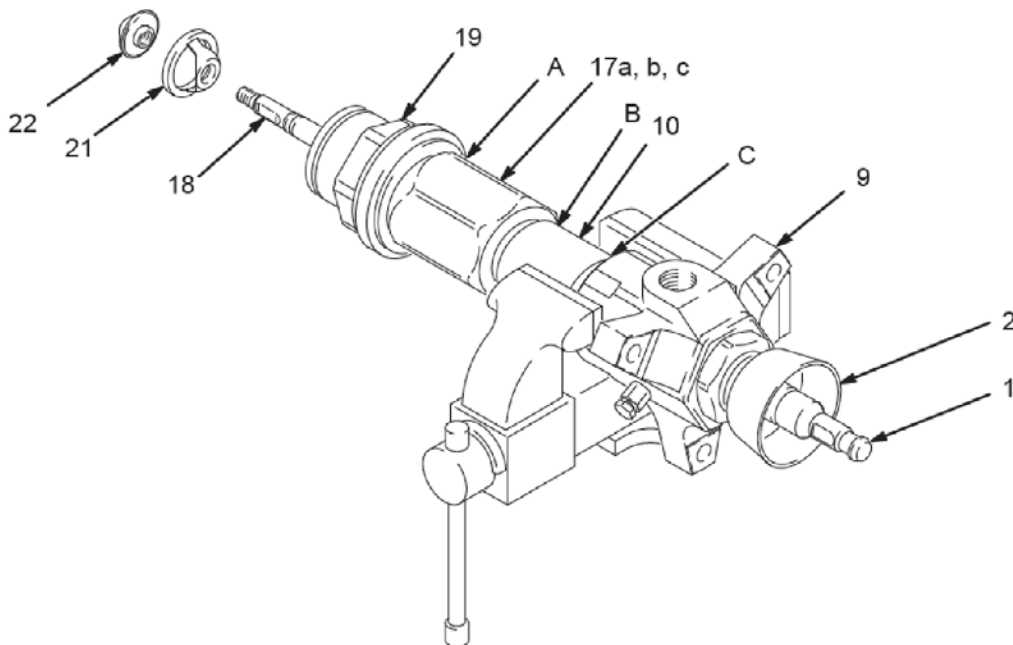

Fig. 8
1. Remove the displacement pump from the motor as explained on page 18. Place the pump in a vise, with the outlet housing (9) positioned as shown in Fig. 8.
2. Hold the flats of the priming piston rod (18) with an adjustable wrench, and use a second wrench to unscrew the priming piston seat (22) from the rod. Slide the priming piston (21) off the rod. Inspect the inner and outer surfaces of the piston (21) for scoring, wear, or other damage.
3. Loosen the packing nut (2) using wrench (109) order separately.
4. Using a pipe wrench on the hex of the intake cylinder (19), unscrew it from the intake valve housing (17). The pump may separate at joints A, B, or C. See Fig. 8.